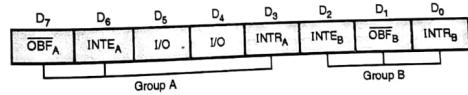

Fig. 9.11.10 : Port C definitions in mode 1 output mode
- The port C is used as status word and its definitions will be as shown in Fig. 9.11.10.